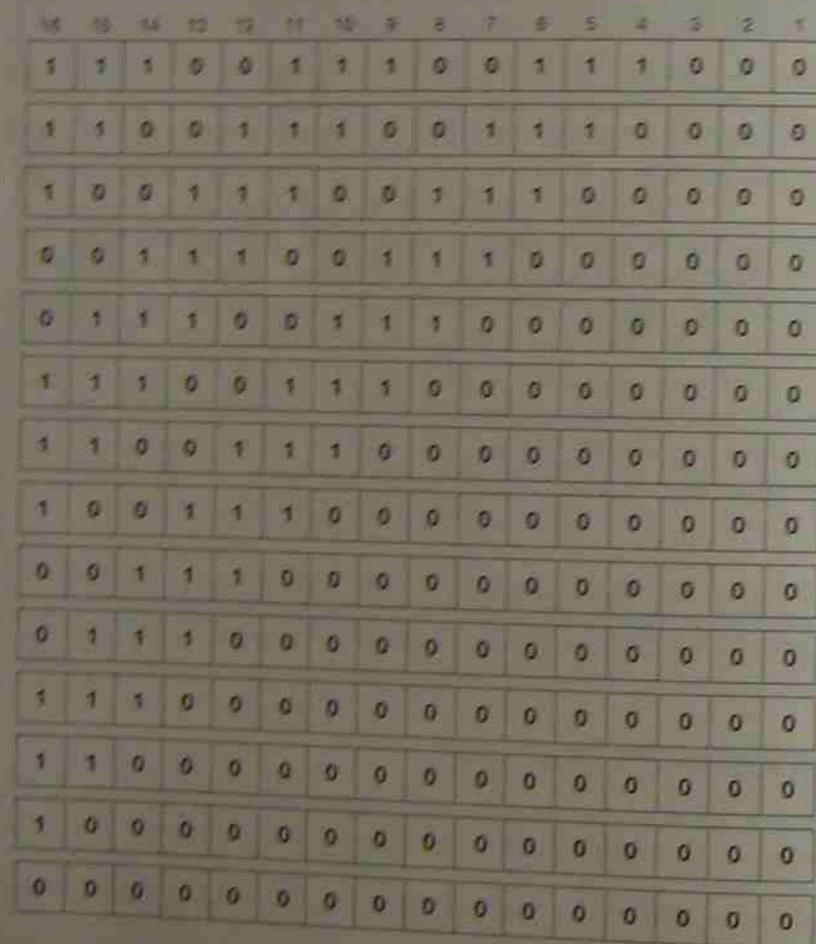

Figure 16-2 Register With All 1s Shifted Out
Notice that when the register is shifted, the information (1 or 0) in bit 16 is shifted out, and is lost. If the register is continually shifted with a zero (0) in bit location 1, all of the 1s are shifted left (forward) until only 0s remain (Figure 16-2).